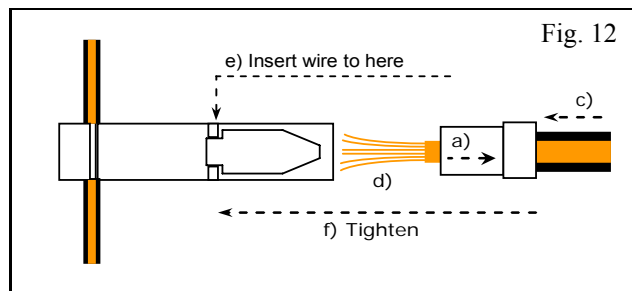

Fig. 12
- 18) Tap accessory wire. Fig. 12